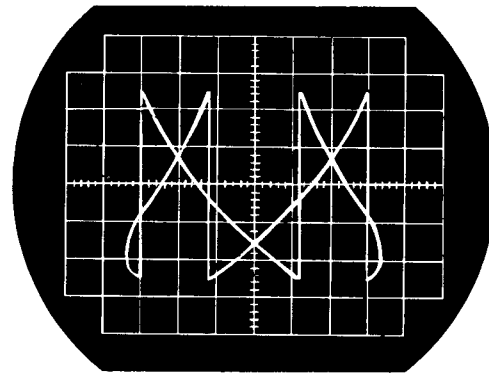

Fig. 18 Lissajous waveform
6. Adjust VR1 of the MPX AF assembly to stop the Lissajous waveform in the oscilloscope (see Fig. 18).